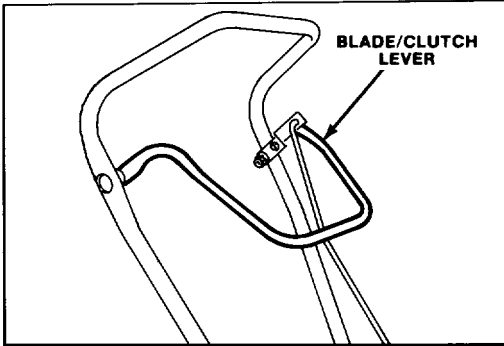
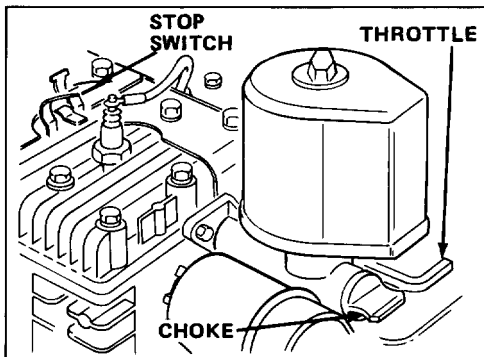
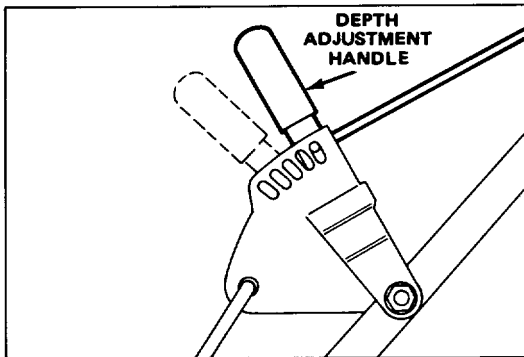

Figure 6
Figure 7
Figure 10
1. **CONTROLS** — Blade/clutch control bar is on upper handle (Fig. 6) and depth adjustment handle is on left side of upper handle (Fig. 10). Throttle, choke and stop switch are engine mounted (Fig. 7).
3. **EDGING** — Squeeze blade/clutch control bar (Fig. 6) against handle to engage blade and move cutter to preset depth. Release blade/clutch control bar to disengage blade and raise cutter head.
4. **STOPPING** — Release blade/clutch control bar (Fig. 6) and push engine stop switch against spark plug.
3. ADJUSTING DEPTH (Fig. 10) – Release blade/clutch control rod. Move depth adjustment handle forward to increase blade depth and rearward to decrease blade depth.